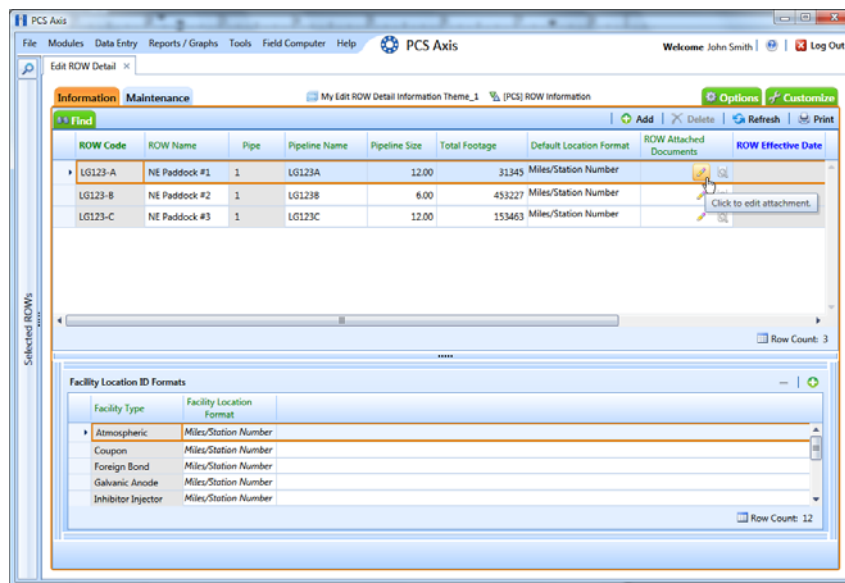

Figure 3-13. Edit ROW Detail
- 2 Click **Data Entry** > **Edit ROW Detail** to open the *Edit ROW Detail* window (Figure 3-13).
- 5 Click the edit icon  in the **ROW Attached Document** field for the pipeline record you plan to attach a document (Figure 3-13).